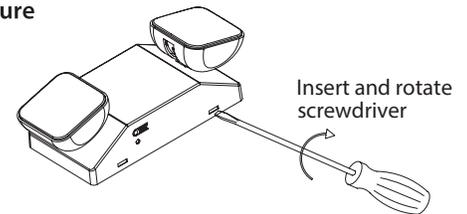

Fig 1
2. Using flat screw driver pry off front cover from back plate (see Fig 1).